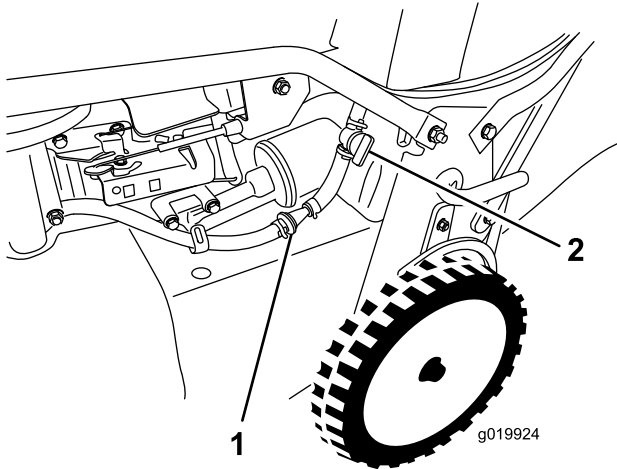

Figure 27
3. Close the fuel-shutoff valve (Figure 27).
4. Remove the fuel filter (Figure 27) from the fuel line by loosening the tube clamps surrounding the fuel filter.